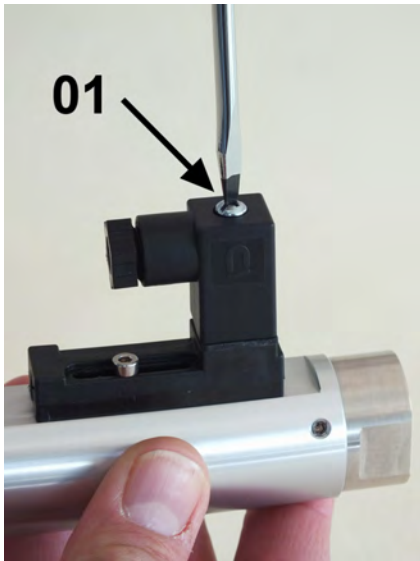

Fig. 21: Detach socket
1. ➔ Release the fixing screw (Fig. 21/01) from the socket.
9. → Plug the socket onto the connector plug and tighten the fixing screw (Fig. 21/01).